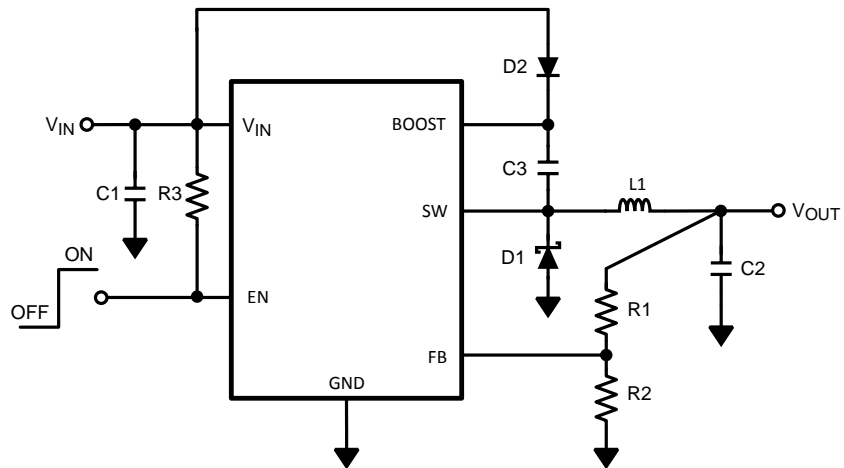

**Figure 28. LM2736X (1.6MHz)**
**Table 5. Bill of Materials for Figure 28**